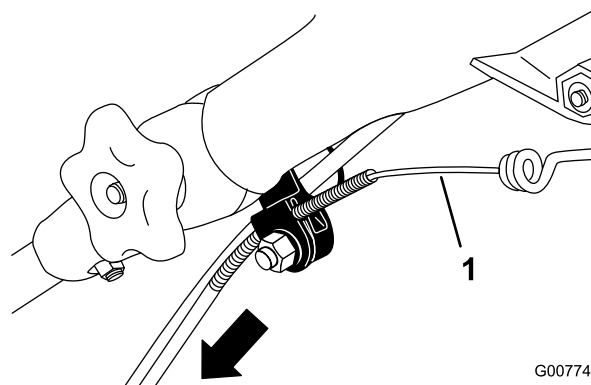

Figure 24
3. Pull the cable jacket downward until you remove the slack in the exposed cable (Figure 24).